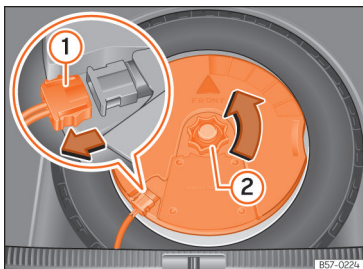

Fig. 191 In the boot: remove the subwoofer.
- Disconnect the subwoofer's speaker cable >>> **Fig. 191 ①**.
- Turn the securing wheel anti-clockwise >>> **Fig. 191 ②**.